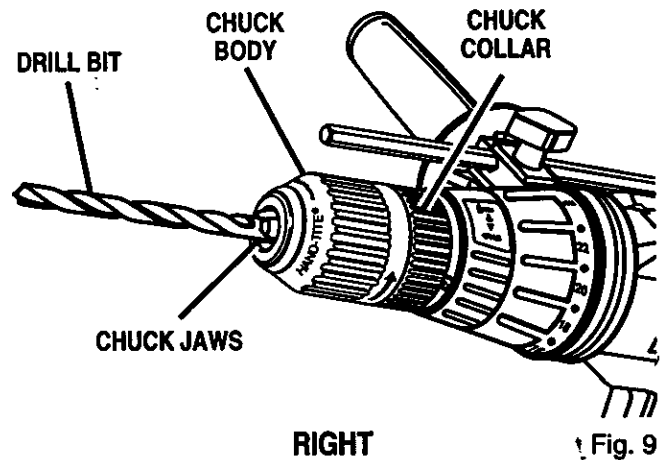

Fig. 9
See Figure 9.
- Insert drill bit into chuck the full length of the jaws as shown in figure 9.